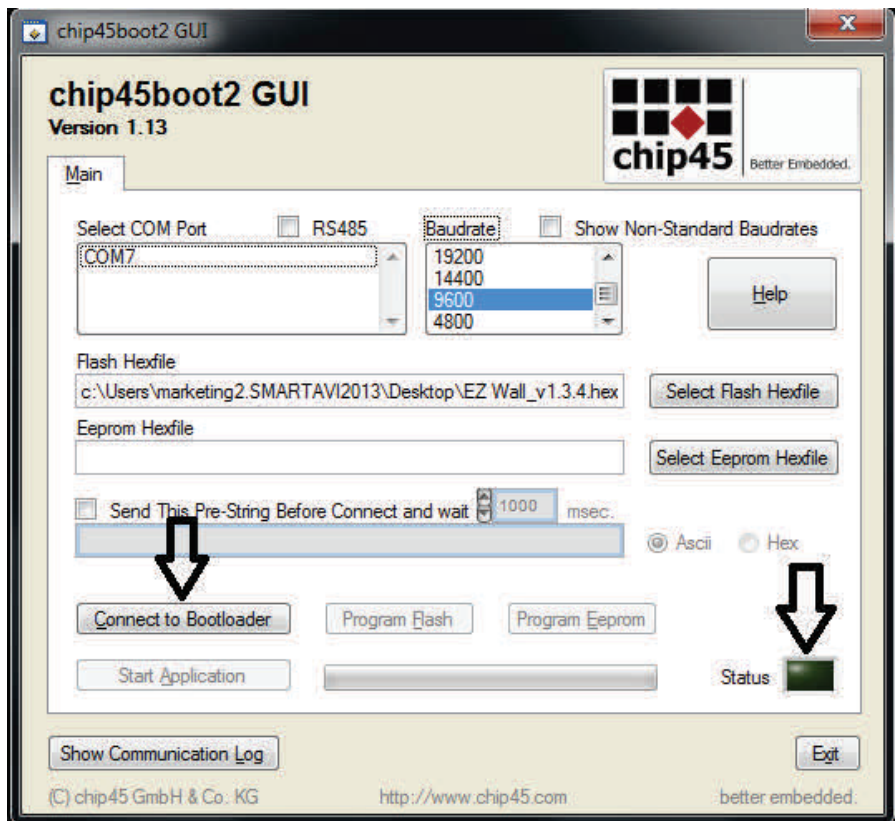

Figure 12-1
5. Initially the Status light in the lower right side of the chip45boot2 window will be dark. Status will appear next to it. The boot loader in the EZWall-Pro is only accessible for a few seconds after you power up the EZWall-Pro. Immediately after turning on the power switch on the EZWall-Pro you must click the "Connect to Boot loader" button in the chip45boot2 window. You only have a second to connect. If you connect successfully to the boot loader the Status light will turn green and connected will appear next to it. If it doesn't connect the Status light will turn red and Failed will appear next to it. If you fail to connect, power off the EZWall-Pro and try again. See Figure 12-1.